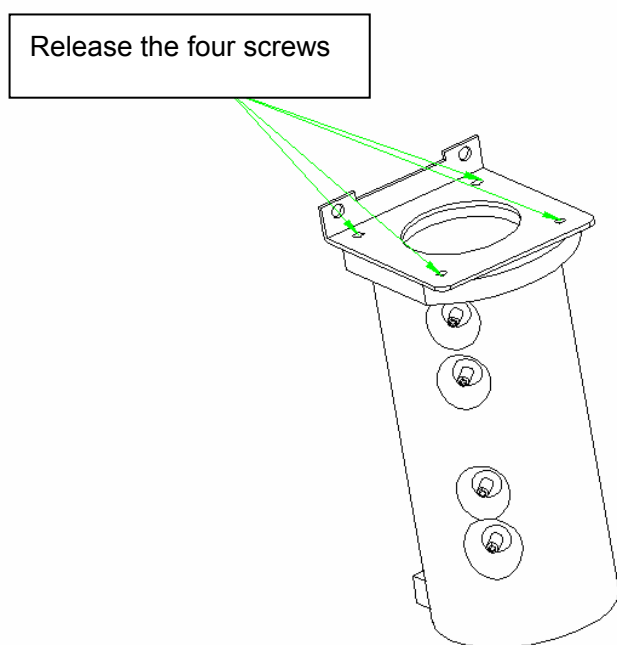

Figure 4-2-2
2) Release the four screws on the negative pressure syringe mounting plate, take out the worn O-ring, and put a new O-ring (coat the instrument specified lubrication sealed grease inside and outside the O-ring) onto the position to mount the original O-ring. As shown in Figure 4-2-2.